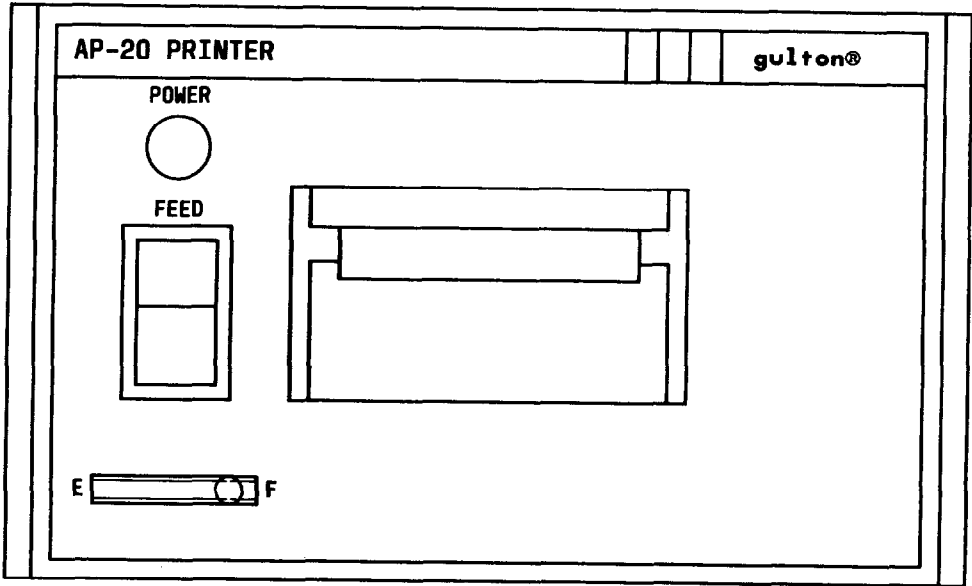

Fig. 4—Front Panel—AP-20 Printer
3.01 The Gulton model AP-20 printer (Fig. 4) is a self-contained alphanumeric thermal printer. It uses a Gulton 20 column, 100 dot matrix thermal printhead capable of printing 20 columns of 5 × 7 characters. It is mounted on the same panel as the digital voltmeter. Its overall dimensions are 3-3/8 inches high, 6-7/8 inches, wide, and 12-7/8 inches deep.